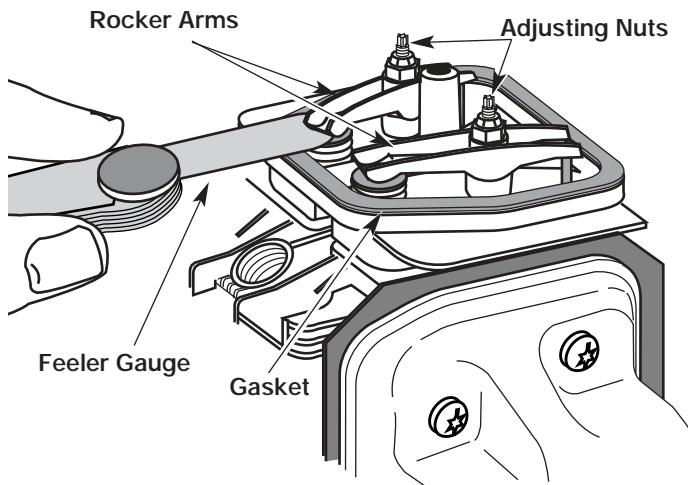

Fig. 42
- Slide the feeler gauge between the rocker arm and the valve return spring. Measure the clearance between the valve stem and rocker arm (Fig 42). Do both intake and exhaust valves.
- Turn the adjusting nut using a 5/16 inch (8 mm) wrench or nut driver (Fig. 42).